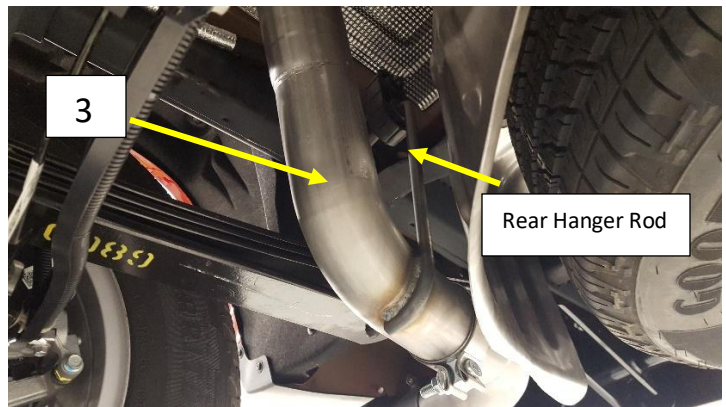

Figure.4
9. Install the Tail Pipe (3) into the muffler outlet. Install the hanger rod into the isolators over the muffler and the rear tail pipe hanger rod into the isolator just past the axle Fig.4